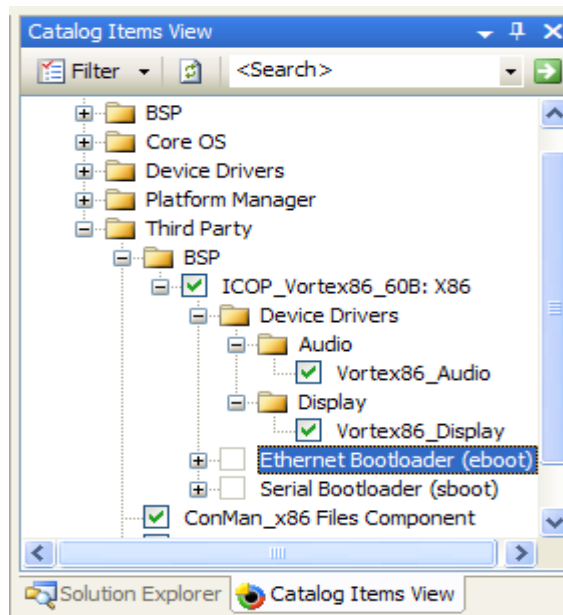

Figure 46. Windows Embedded CE 6.0 Catalog Items View
9. Expand Third Party catalog folder, and select Vortex86_Audio from BSP/ICOP_Vortex86_60b:X86/Device Drivers/Audio; select Vortex86_Display from BSP/ICOP_Vortex86_60b:X86/Device Drivers/Display, to enable eBox 2300 media interfaces as show in figure 46.